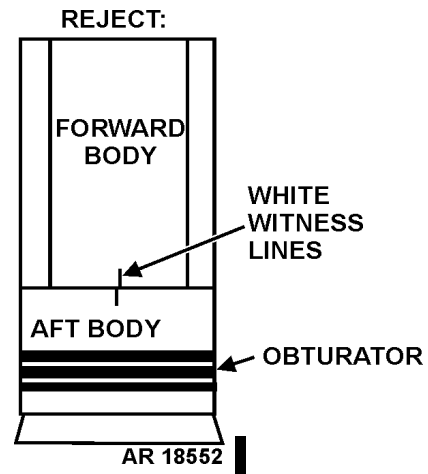

Figure 4-16. Unacceptable Cartridge for M1028.
- b. If the white witness lines on forward body shift to left or right away from the white witness lines on the aft body or out of radial alignment as shown in figure 4-16, the cartridge shall be rejected and turned in.